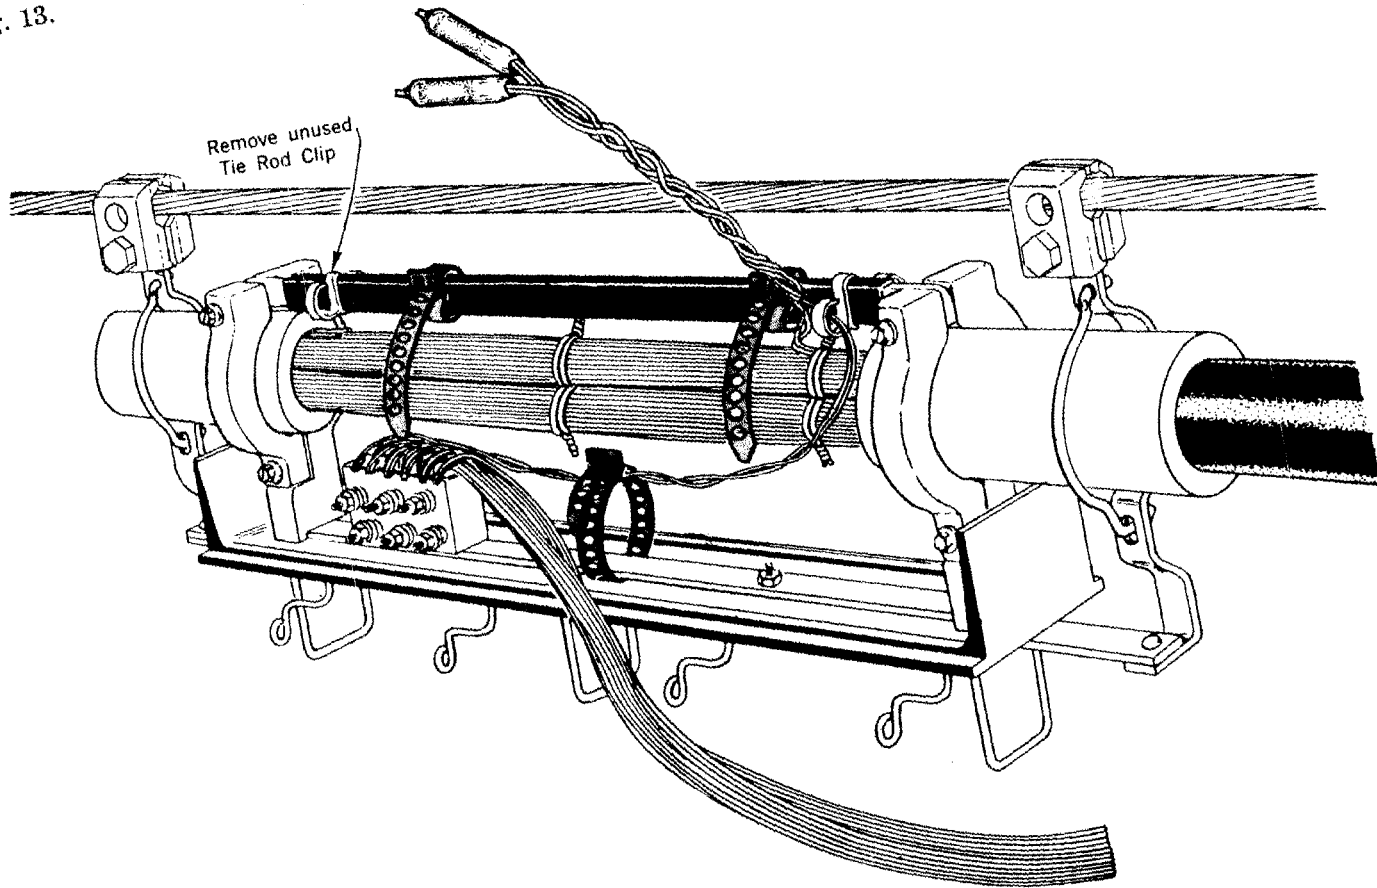

Fig. 13 – Terminated Pairs Twisted Together
5.10 *Terminate conductors as outlined in Section 632-205-204 and 632-205-205. The terminated pairs are then twisted together. See Fig. 13.*